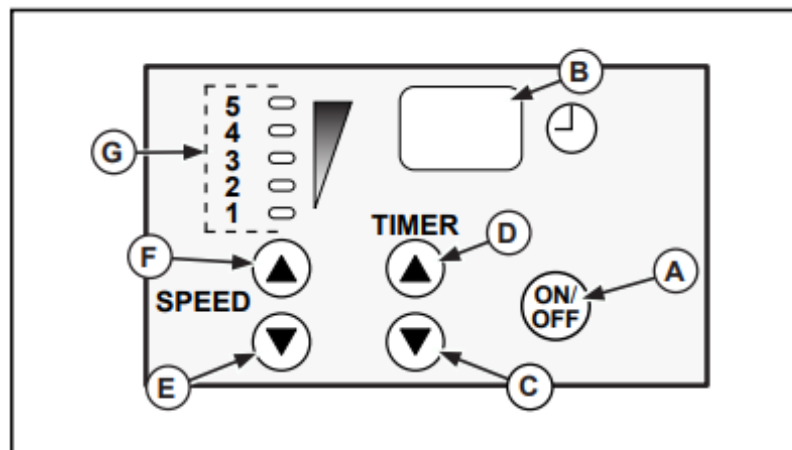

Figure 5. 7 Quart and 10 Quart Mixer Control Panel.
2. Select the desired operating speed based on the ingredients. Use the speed up (E) or speed down button (F) to program the speed. See Figure 5.
3. Set the time cycle, if desired by using the time up button (C) and time down button (D). The maximum time that can be set is 30 minutes.
4. To begin the mixing cycle press the on/off button (A). The mixer will continue to operate until the on/off button (A) is pressed again. Or, the mixer will operate until the time cycle has been completed.